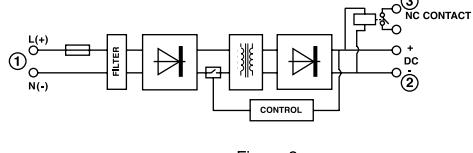

Figure-2
2.1 Input (1)
- The part which is numbered as 1 in Figure-2 is the Line and Neutral supply inputs of PS-362.
2.2 Output (2)
- The part which is numbered as 1 in Figure-2 is the DC voltage output of PS-362.
2.3 Contact Output (3)